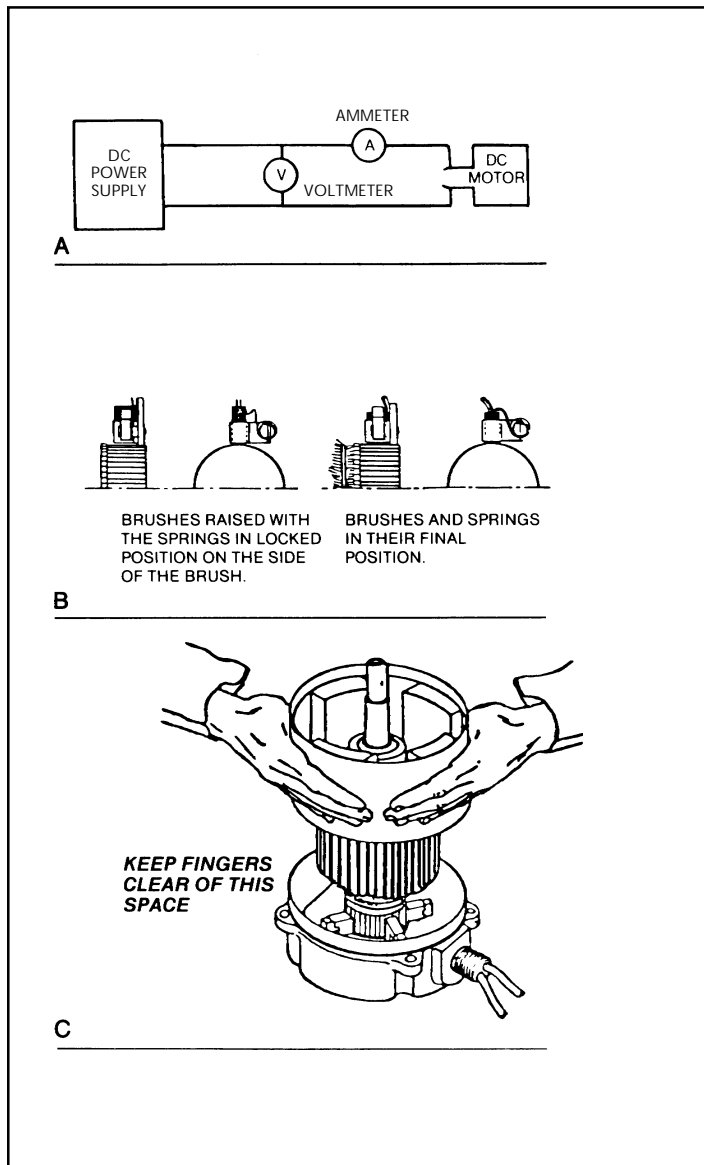

Figure 4-18: Electric Motor Service
4.13 Electric Motor (Figure 4-18)